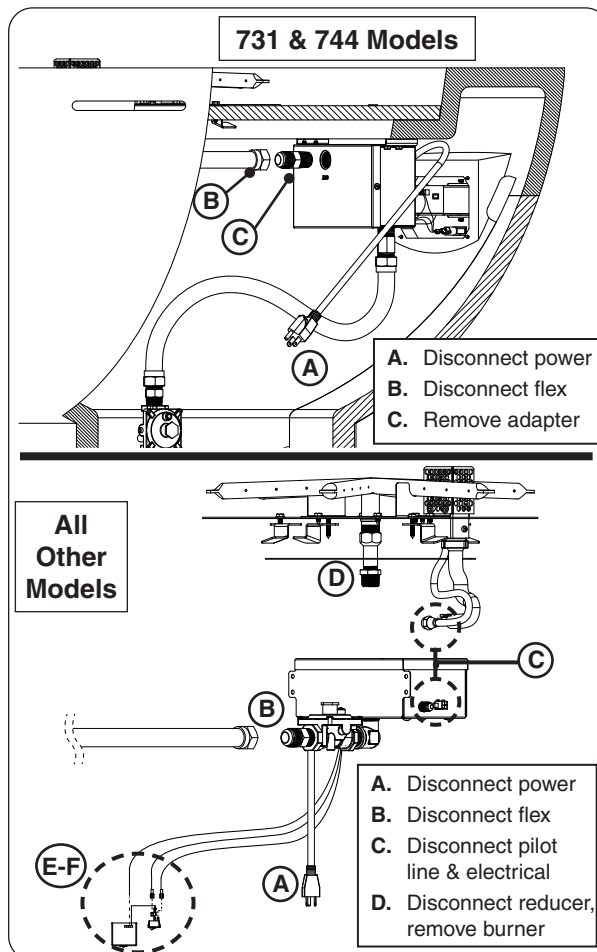

Fig. 46-2 Gain access to valve box
2. Gain access to the valve box from the unit as shown in Fig. 46-2, A-C.
2. Remove the burner and gain access to the valve box as shown in Fig. 46-2, A-C.
2. Remove the burner and gain access to the valve box as shown in Fig. 46-2, A-D.